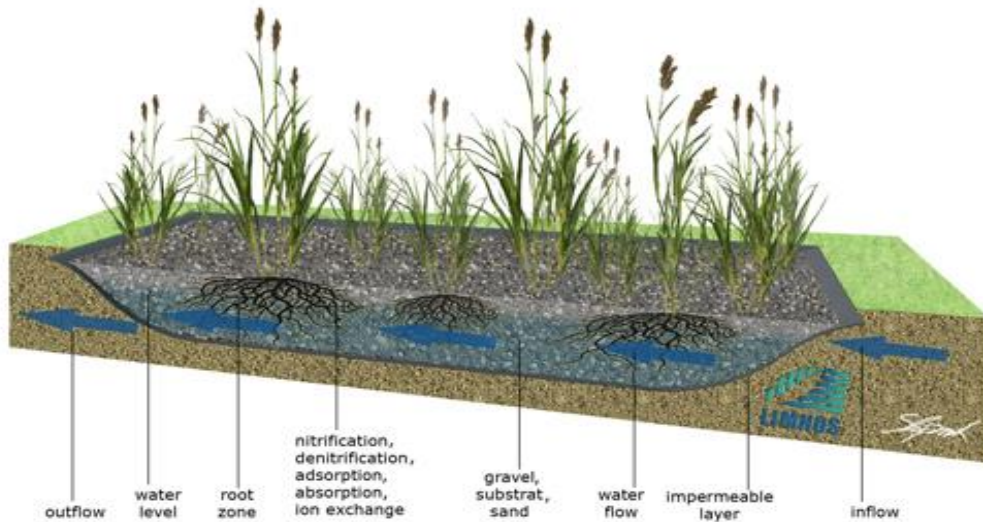

Figure 2. Subsurface Flow (SSF) Constructed Wetlands [6].
- Figure 2. Subsurface Flow (SSF) Constructed Wetlands